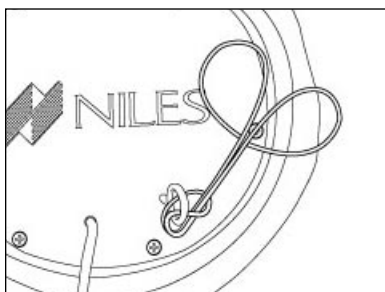

Figure 11 Security Cable Connected and Tightened
4. Pull the ends of the security cable with the loops as tight as you can until the knot around the security eyelet is tightened as shown in **Figure 11**.